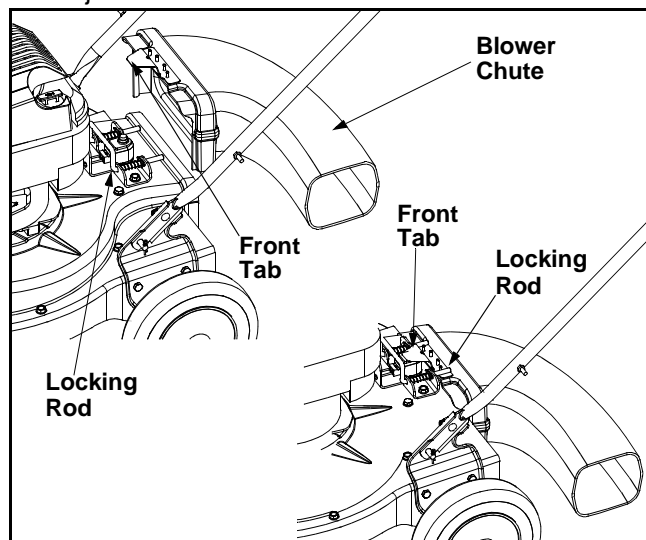

Figure 4
- Grasp blower chute with one hand and slide locking rod on mounting bracket with other hand toward engine. Use the end of mounting bracket as leverage when sliding the locking rod. See Figure 4.
- Grasp blower chute with one hand and pull lock rod on mounting bracket with other hand toward engine to release. Refer to Figure 4.